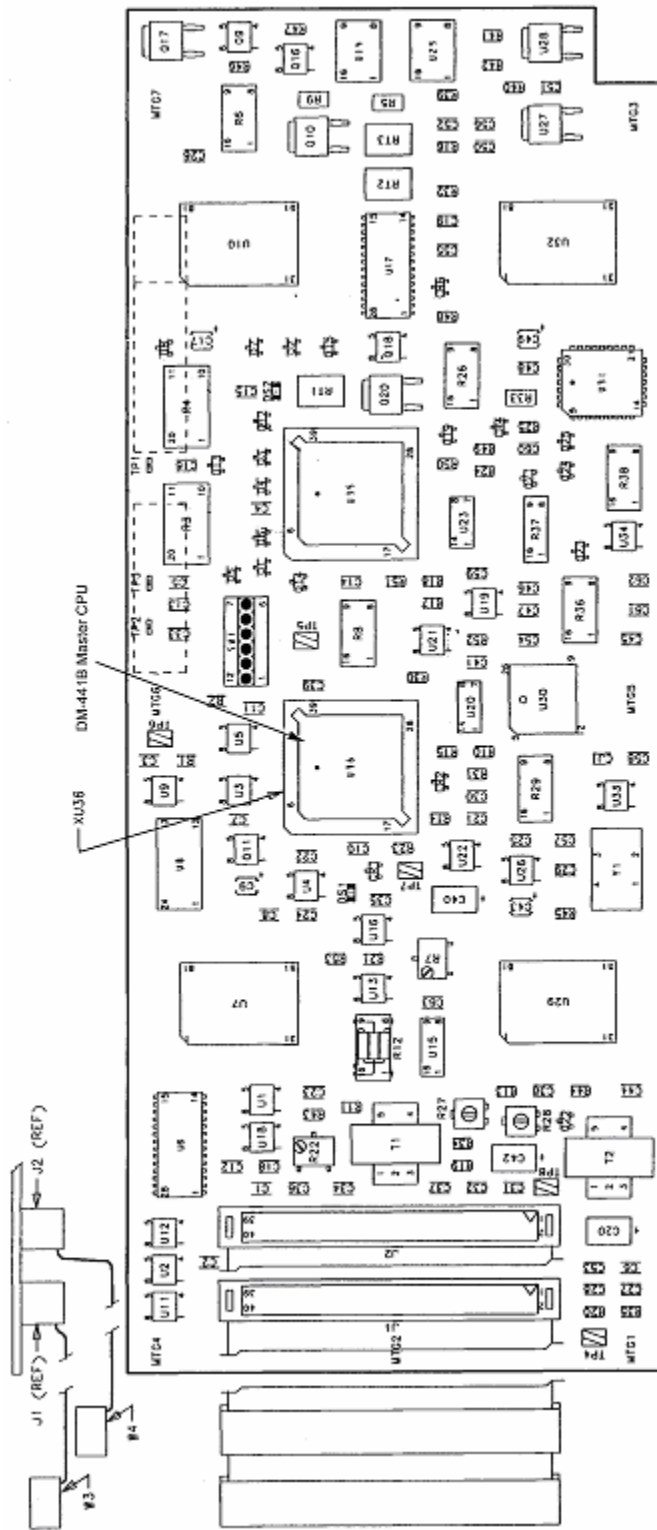

Figure 1. DM-411B CPU Board Parts Locator
4. Use a PLCC chip removal tool to remove the Master Processor U36 from its socket (see Figure 1).
5. Install item 1 DM-441B Master Processor, P/N 122-01577-0034. This chip contains the -34 version software.